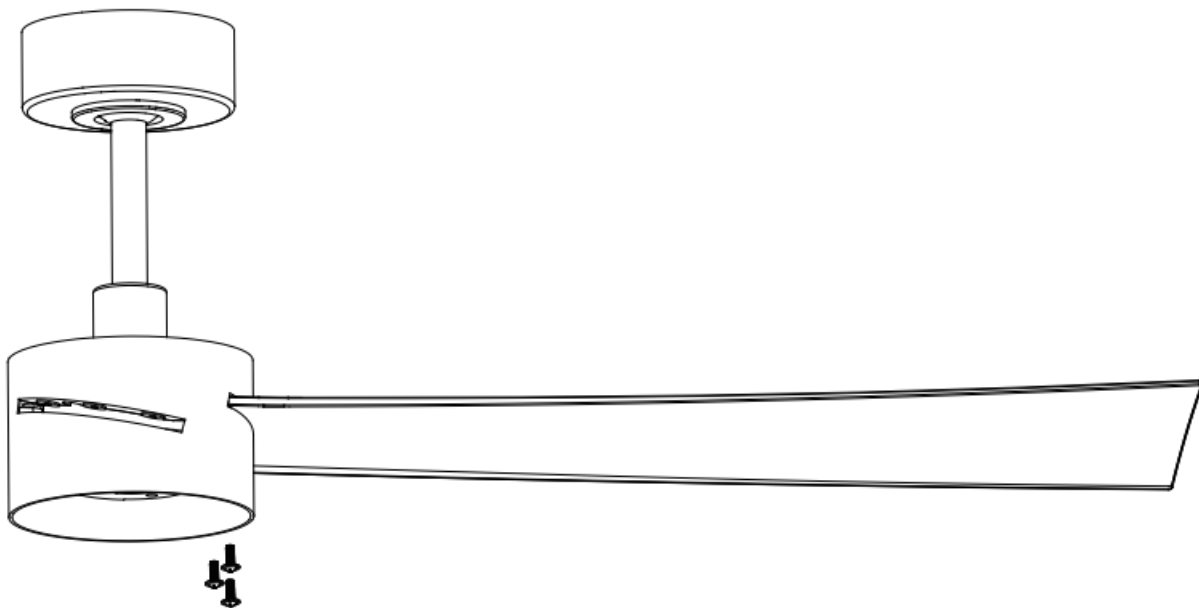

Fig. 5
**INSTALLATION OF BLADE (Fig. 5)**